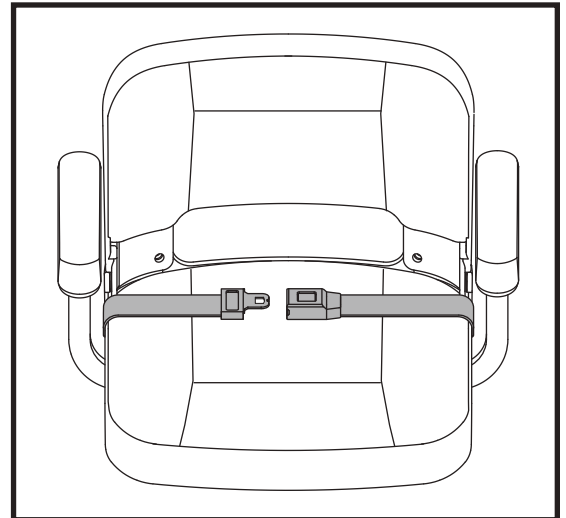

Figure 33. Positioning Belt - Metal Tab Style
Your scooter seat may be equipped with an auto-type positioning belt that can be adjusted for operator comfort. See figure 33. The positioning belt is designed to help support the operator so that he or she does not slide down or forward in the seat. The positioning belt is not designed for use as a restraining device.
1. Insert the metal tab on the right side of the belt into the plastic housing on the opposite strap until you hear a “click.” See figure 33.